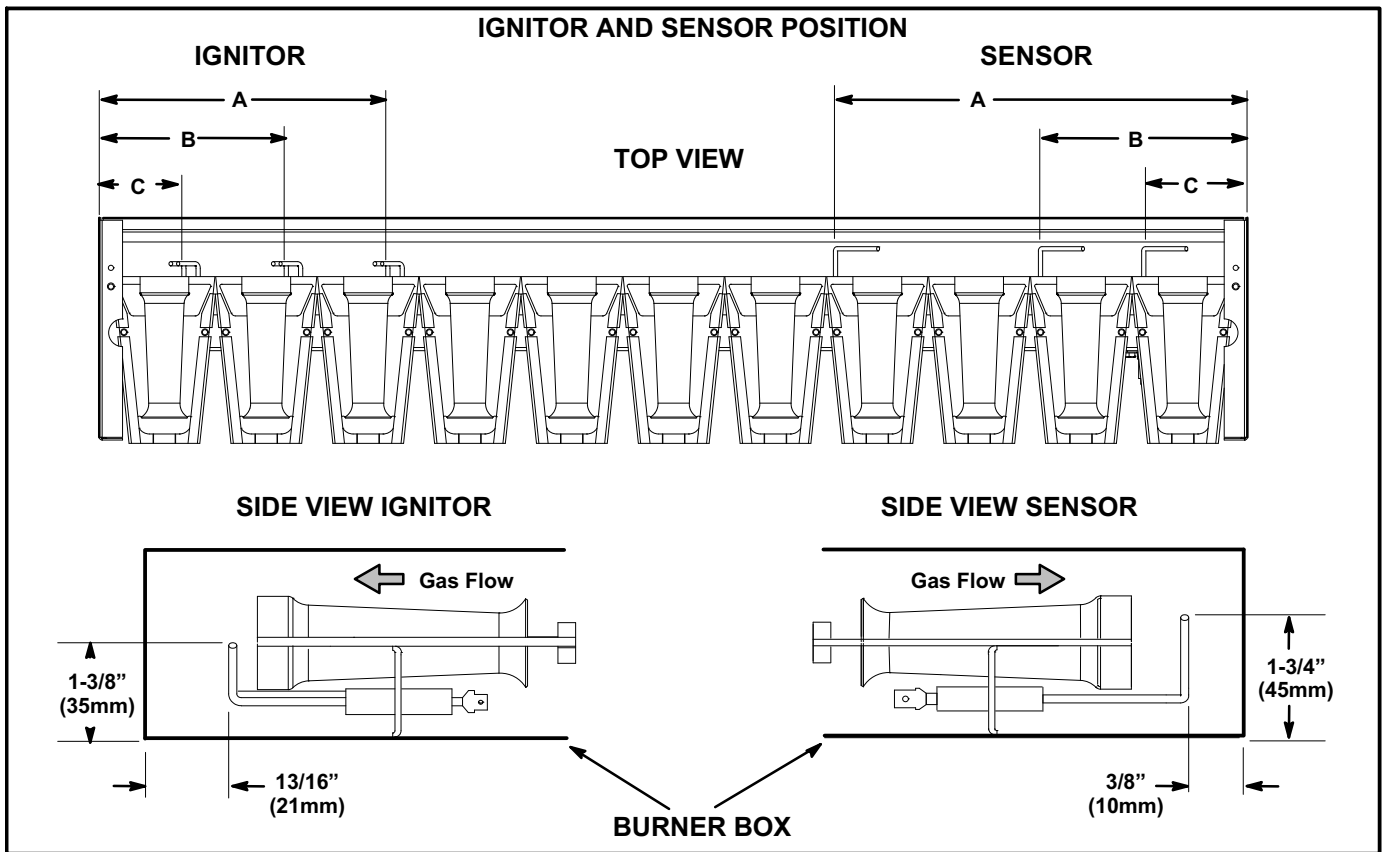

FIGURE 41
- 5- Check the alignment of the ignitor and the sensor as shown in figure 41 and table 23.